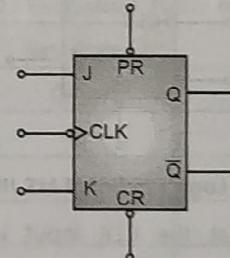

Fig. 3.20 : Logic symbol of JK flip flop
- The logic symbol of JK flip flop is shown in Fig. 3.20.